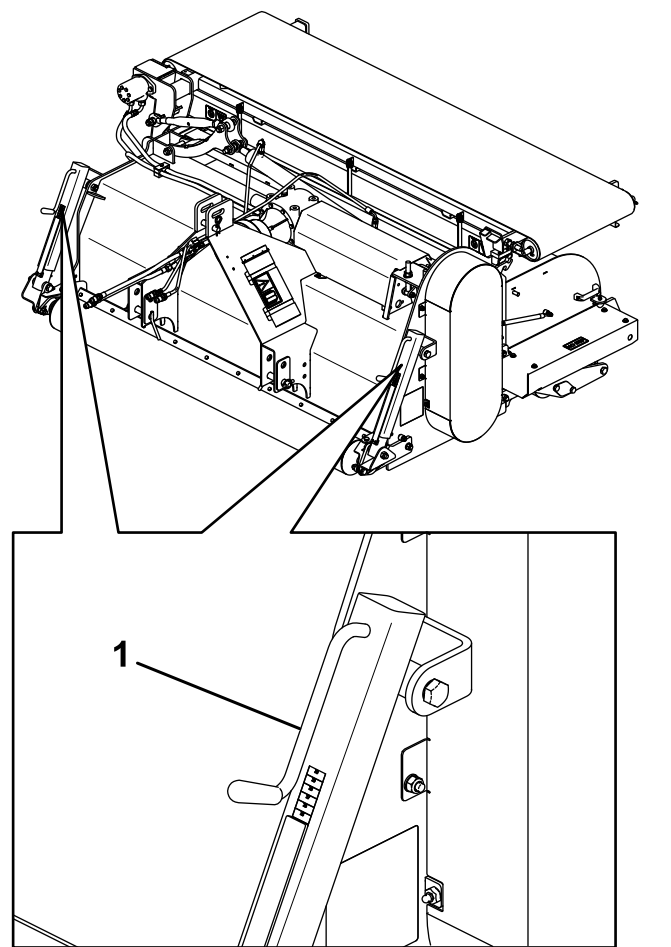

Figure 22
4. Using the adjustment handles, adjust the front links to your desired depth by using the indicators on both sides (Figure 22).